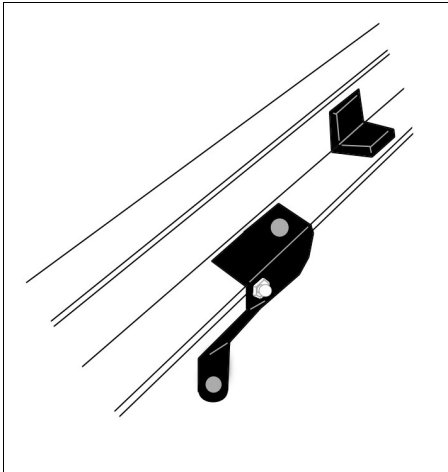

Figure 1
3. In the kit, find the fender brackets. Position the fender bracket over the fender bolt hole. Place the fender bolt back in the bolt hole and hand tighten. Note: The fender brackets are side-specific. Make sure the bracket angles toward the front of the Bronco and the ball joint is facing away from the fender as shown in Figure 1.